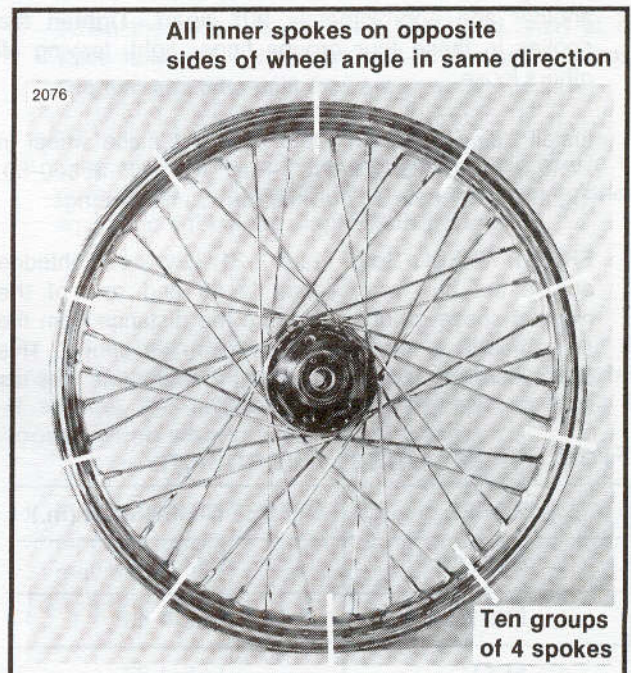

Figure 2-19. Laced Wheel
4. See Figure 2-19. The rim is divided into ten groups of four spokes each. In each group, only one hole will be angled toward each upper flange inner spoke. Insert the spokes into these holes. Secure each spoke with a nipple screwed on the end about three turns, just enough to hold it in place.